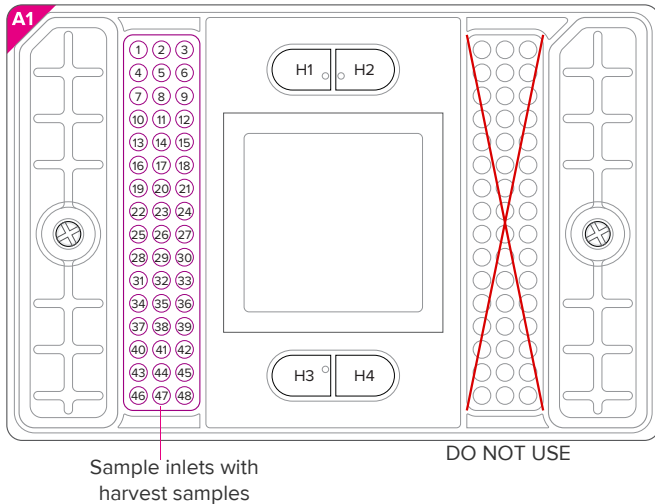

Figure 5. Map for harvesting samples from the LP 48.48 IFC
- Review the map for harvesting samples. (See Figure 5.)